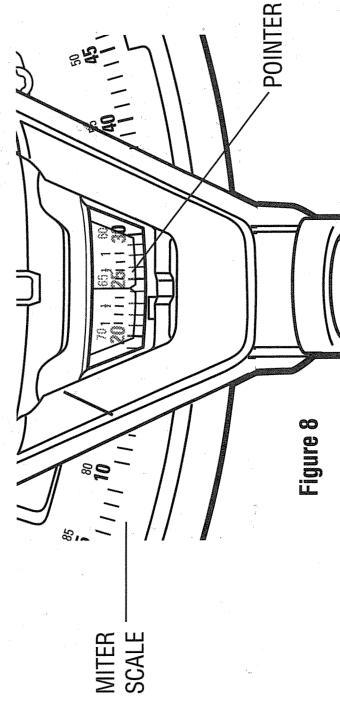

Figure 8
3. Observe the pointer and miter scale through the viewing opening shown in Figure 8. If the pointer does not indicate exactly 0, use a flat bladed screwdriver to gently pry it left or right as required.